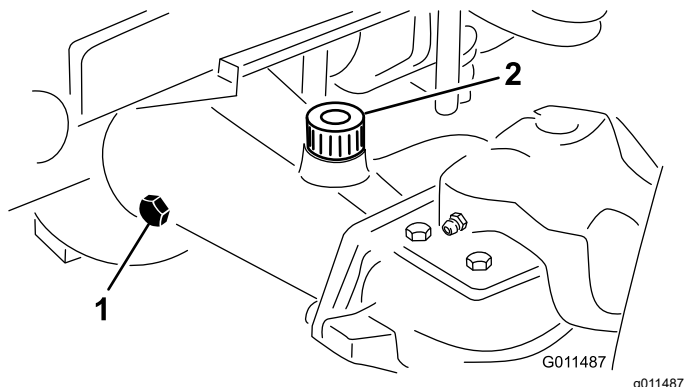

Figure 16
2. Remove a check plug from 1 end of the axle and ensure that the lubricant is up to the bottom of the hole (Figure 16).